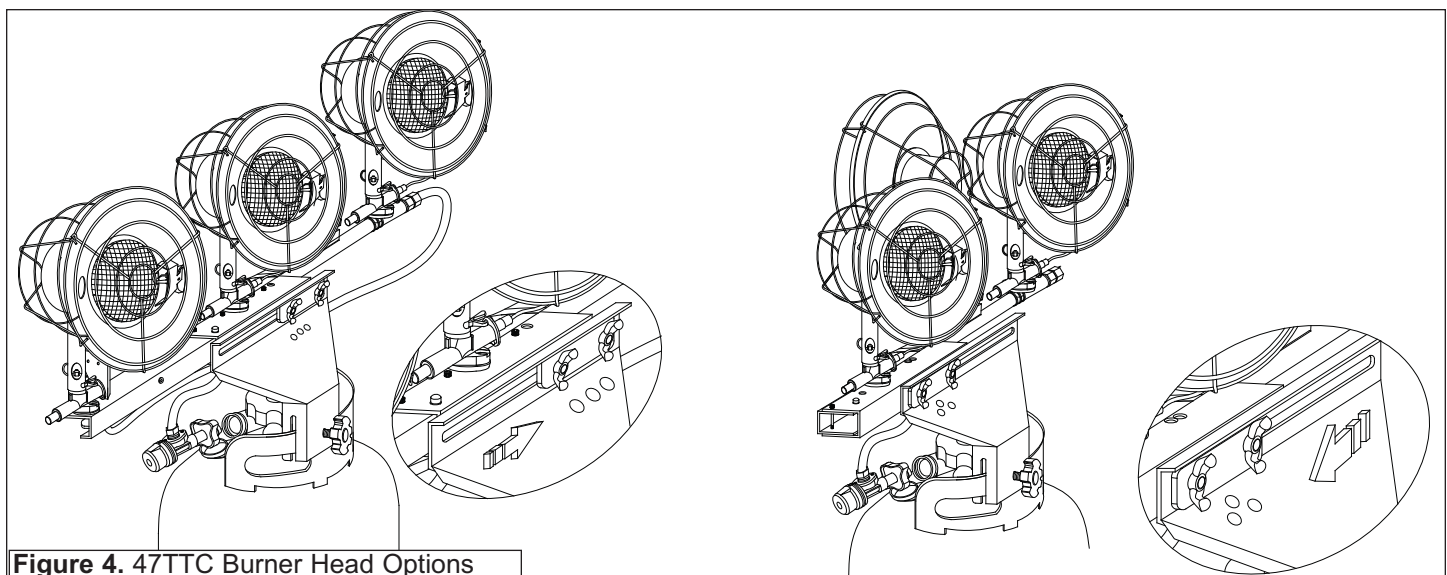

Figure 4. 47TTC Burner Head Options
4. See Figure 4 on Page 4 for determining Burner position options.